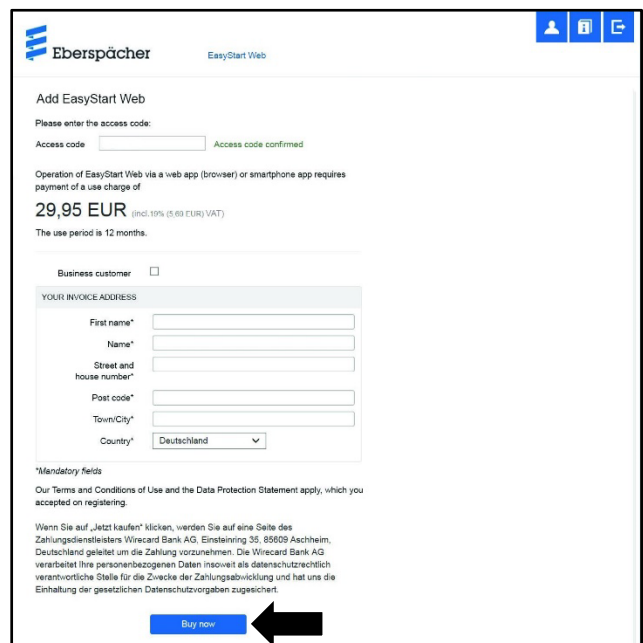

Figure 9
9. Complete all the fields that show in Figure 9 then click “Buy now”.